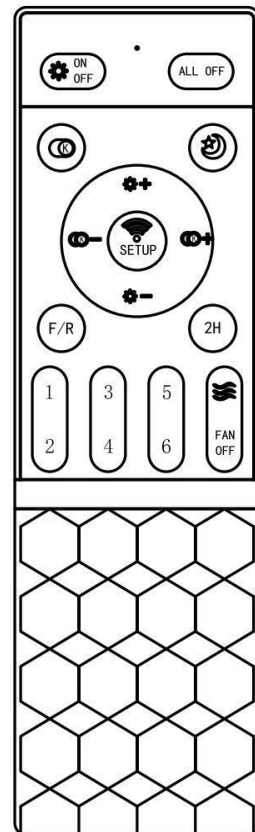

Figure 3
4. Remote functions: (Figure 3)